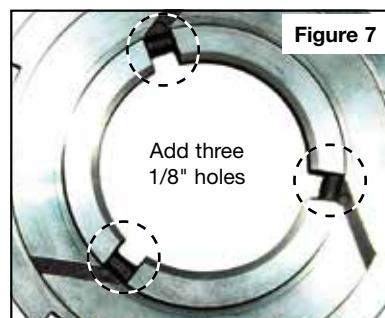

Figure 7
- Add three 1/8" holes on the stator cap for improved oil flow (**Figure 7**). Some OE castings have this feature, some do not.